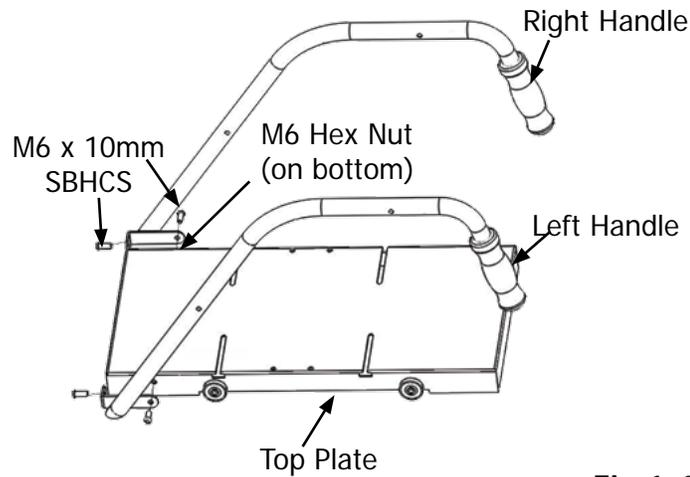

Fig.1-1
- 1 Attach the Right and Left Handles to the Bottom Plate using (4) M6 x 10mm SBHCS and (4) M6 Hex Nuts (see Fig.1-1). Place the Handle Brace across the two Handles (see Fig.2-2).